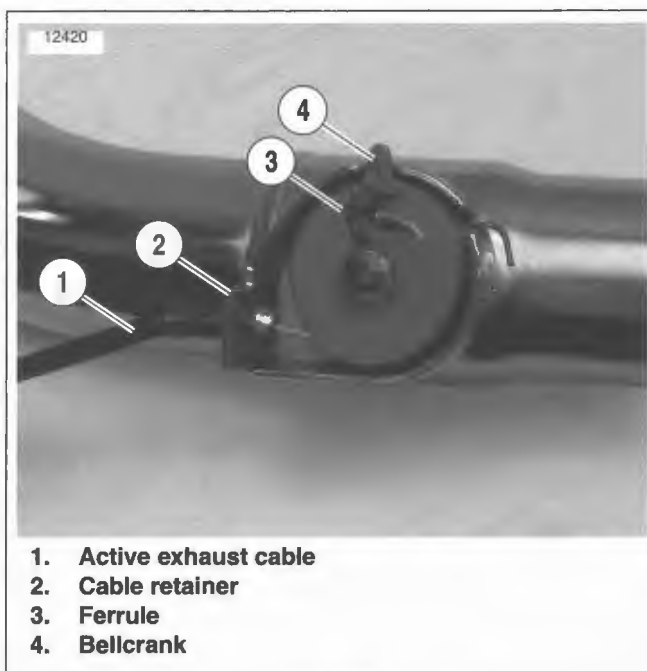

Figure 4-60. Bellcrank
2. See Figure 4-60. On vehicles with active exhaust, remove active exhaust cable from bellcrank.
- a. Remove cable retainer (2) from rear exhaust pipe.
- b. Disconnect ferrule (3) from bellcrank (4).